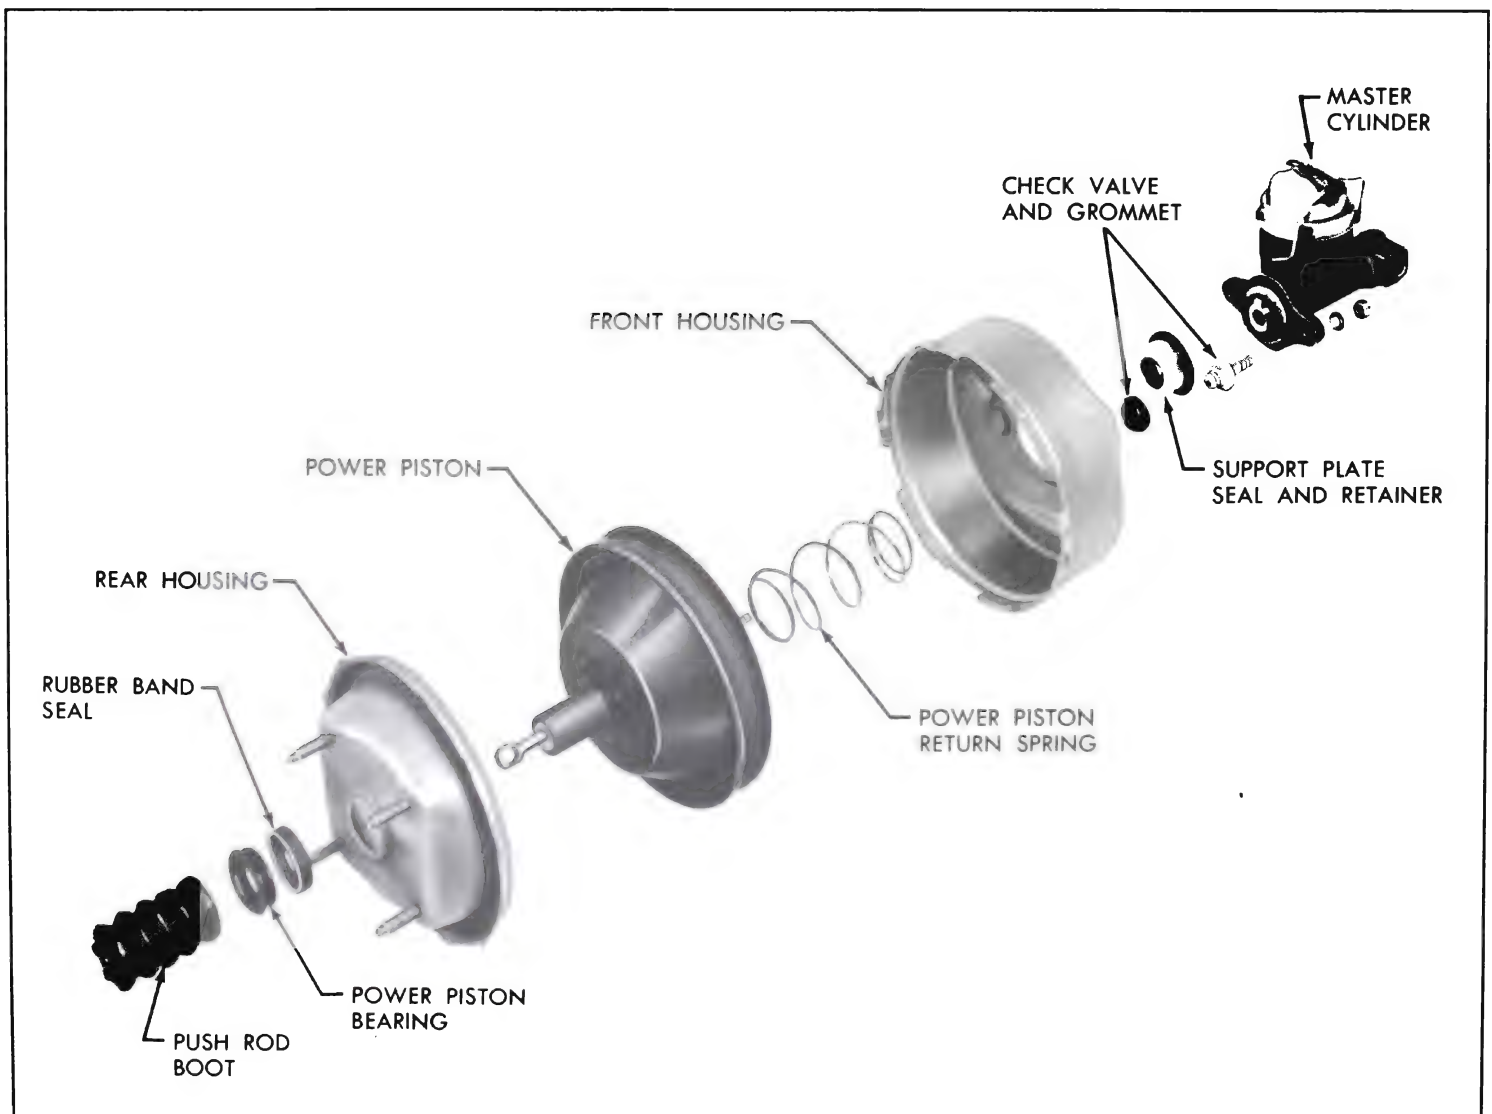

Figure 9-20—Power Brake Unit - Exploded View
The power piston assembly houses the control valve and reaction mechanism, and the power piston return spring. The control valve is composed of an air valve and floating control valve assembly. The reaction mechanism consists of a hydraulic piston reaction plate and three reaction levers. The push rod, which operates the air valve, projects out of the rear of the power piston through a boot. A vacuum check valve assembly is mounted in the front housing for connection to a vacuum source. See Figure 9-20.
9. From center hole in rear housing, remove the boot, rubber band seal and power piston bearing. See Figure 9-20.